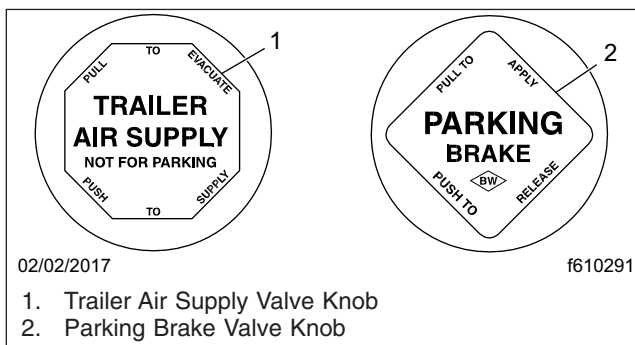

Fig. 18.8, Brake Valve Knobs
6. Ensure that the trailer air supply valve (trailer brake) is pulled out, and that the trailer parking brakes are set. See Fig. 18.8.
- Verify that both the parking brake and trailer air supply knobs are out (see Fig. 18.8), the tractor and trailer parking brakes are set, and that the trailer is prepared for uncoupling.
1. Verify that both the parking brake and trailer-air supply knobs are out (see Fig. 18.8), the tractor
1. Verify that both the parking brake and trailer air supply knobs are out (see Fig. 18.8), the tractor